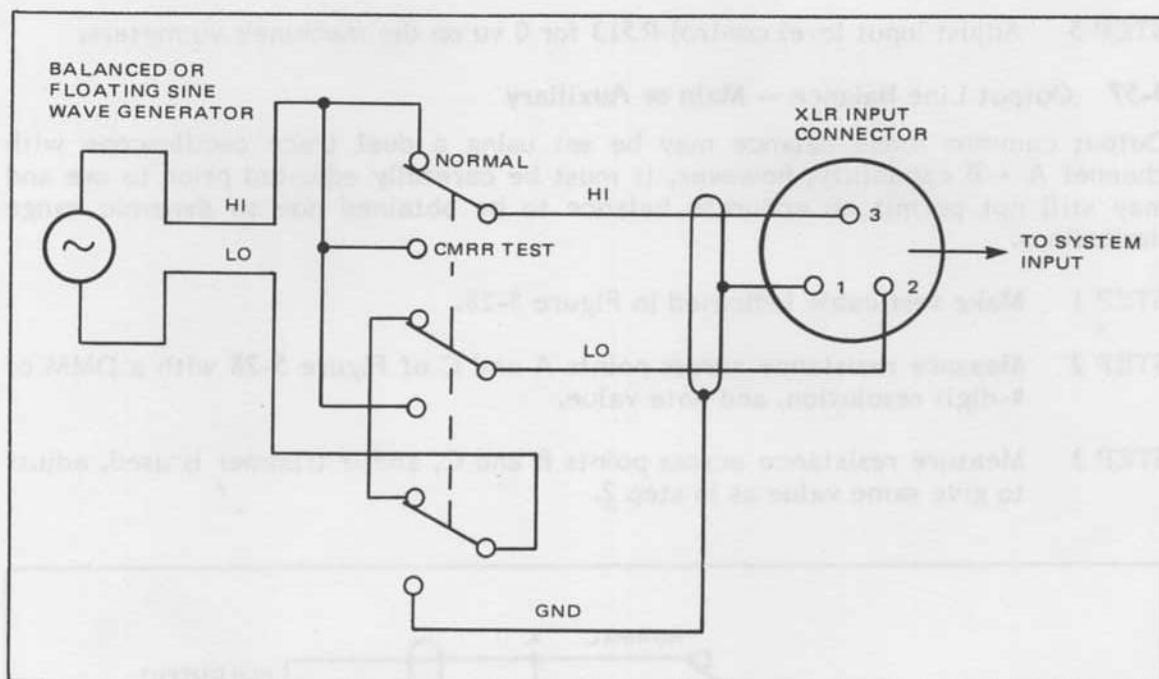

Figure 5-27. Test Lead/Switch for Measuring/Adjusting Input CMRR
- STEP 6 Connect input with test cable (Figure 5-27) using CMRR test position.